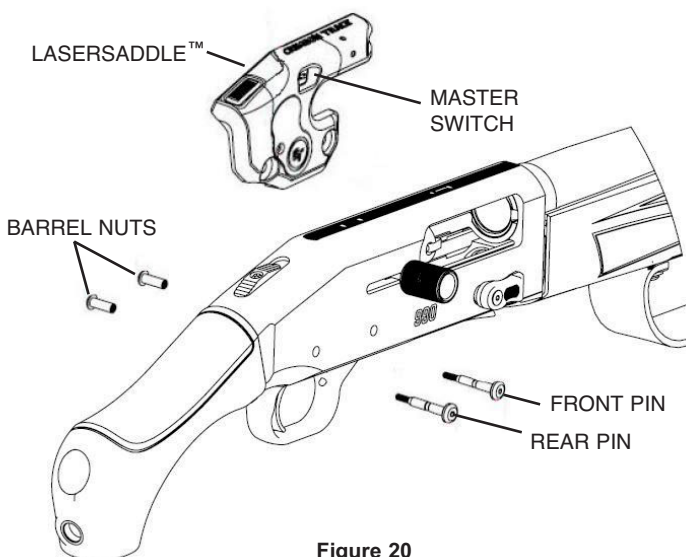

Figure 20
2. Remove the front and rear pins and barrel nuts with the 3/32” hex wrench provided in the accessory pack included with your firearm (Figure 20).